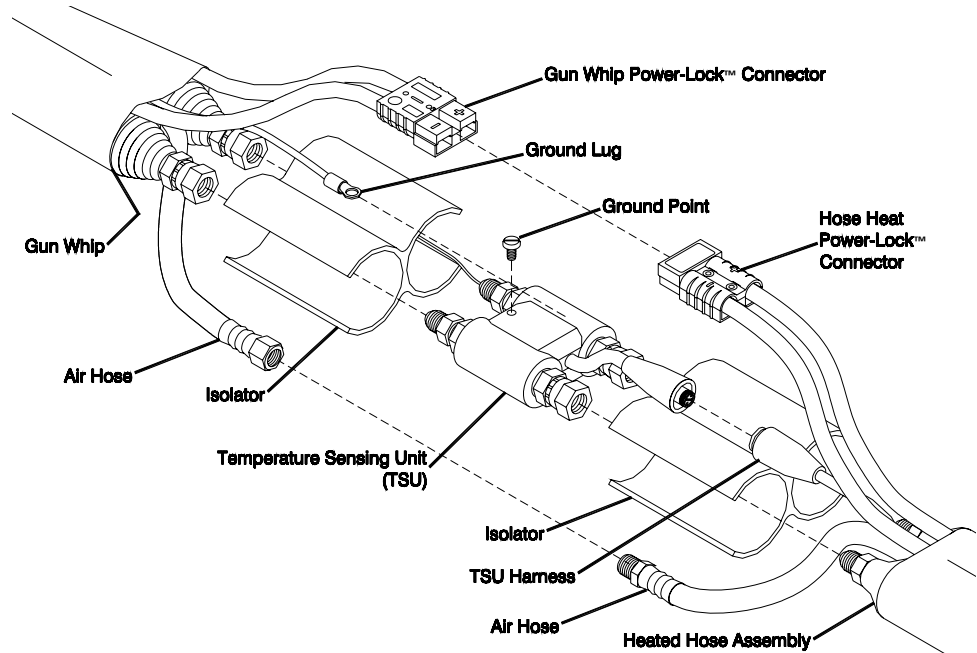

Figure 11. Temperature Sensing Unit (TSU)
5. Install the temperature sensing unit (TSU) to the gun whip hose as follows: (See to Figure 11.)